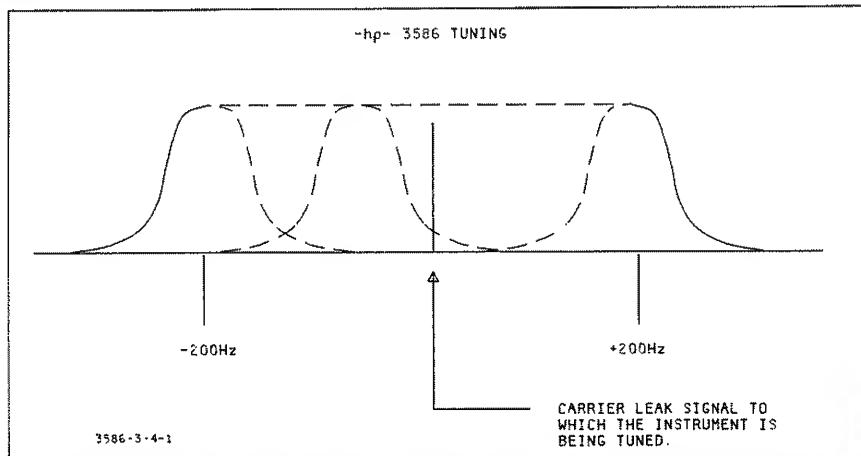

Figure 3-4-1. Tuning Error Of The Twenty Hertz Bandwidth.
**3-4-15. Searching For The Input Signal.** The instrument may not be precisely tuned to the carrier signal after the Entry Frequency has been entered. Errors in the frequency reference may cause the instrument bandpass to fall completely above or below the carrier signal frequency (see Figure 3-4-1). When this happens, the operator must search for the input signal or *verify that the signal being received is the desired signal. Note that an increase in the level indication does not guarantee that the instrument is properly tuned. The instrument may be tuned to the wrong signal!* Be especially cautious when tuning to carrier leak signals that are next to a pilot tone. It is possible to mistake the pilot tone for an excessive carrier leak signal. Since the tuning error caused by the frequency reference is proportional to frequency, searching for the input signal will be necessary only when high frequency carriers are measured. Also, the magnitude of the tuning error varies with the frequency reference used in the instrument. If the high stability frequency reference is used in the instrument, it may be necessary to search for the input signal only at the very highest frequencies. The approximate Entry Frequencies above which search for and/or verify if the input signal will be necessary are summarized in Table 3-4-1. A more comprehensive discussion of this step is given in Paragraph 3-2-56.